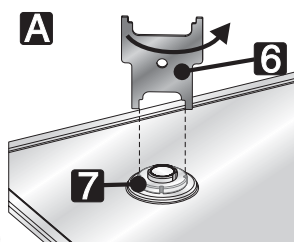

Fig 3)
- use the spanner **6** (Fig. 3) to open the bayonet fastenings of the burner fixing rings, applying leverage on the guides **7**;